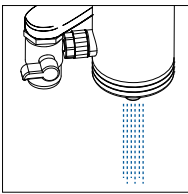

Figure 1.2
4. Switch the lever to the level position and run water to the system slightly. Flush it for 3 minutes during the first use. [Figure 1.2]